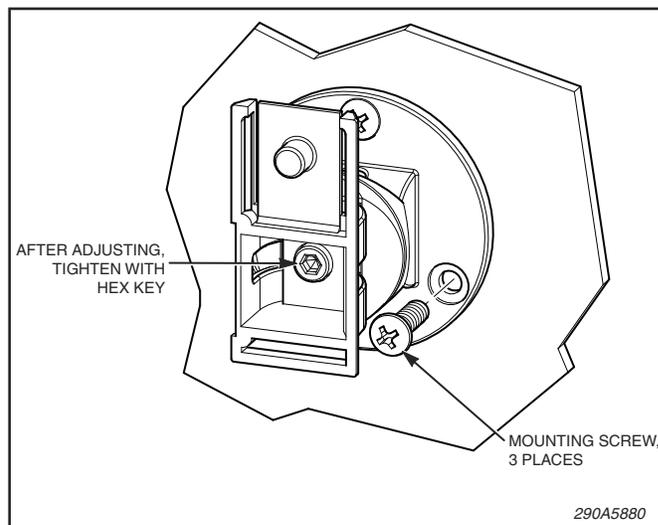

Figure 2.
f. Secure the swivel mount assembly to the mounting surface with the provided screws as shown in Figure 2.
h. Once in desired location, tighten using a 3mm hex key. A 7/64 inch hex key will also work (see Figure 2 on page 2).